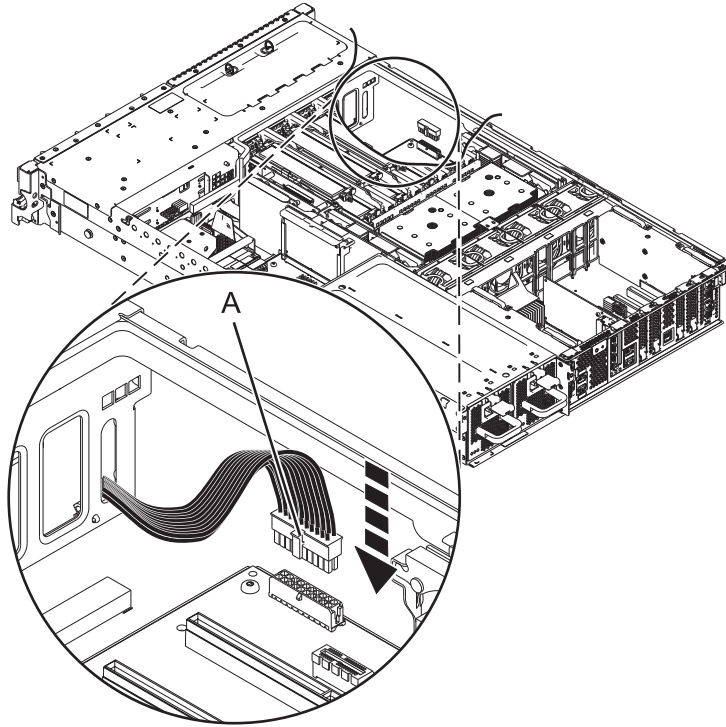

Figure 17. Connecting the fan cable
10. Connect the fan cable by pressing the fan cable (A) into the fan cable connector. See Figure 17 on page 19.